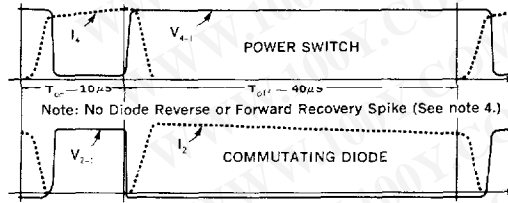

Figure 2. PIC600, PIC601, PIC602 Switching Waveforms
- No reverse recovery spike generated by commutating diode (See note 4 and Fig. 2.)
- In switching an inductive load, the current will lead the voltage on turn on and lag the voltage on turn-off (see Figure 2.). Therefore, Voltage Delay Time (t_{dv}) $\approx t_{di} + t_{ri}$ and Current Storage Time (t_{st}) $\approx t_{sv} + t_{fv}$.
- As can be seen from the switching waveforms shown in Figure 2., no reverse of forward recovery spike is generated by the commutating diode during switching! This reduces self-generated noise, since no current spike is fed through the switching regulator. It also improves efficiency and reliability, since the power switch only carries current during turn-on.